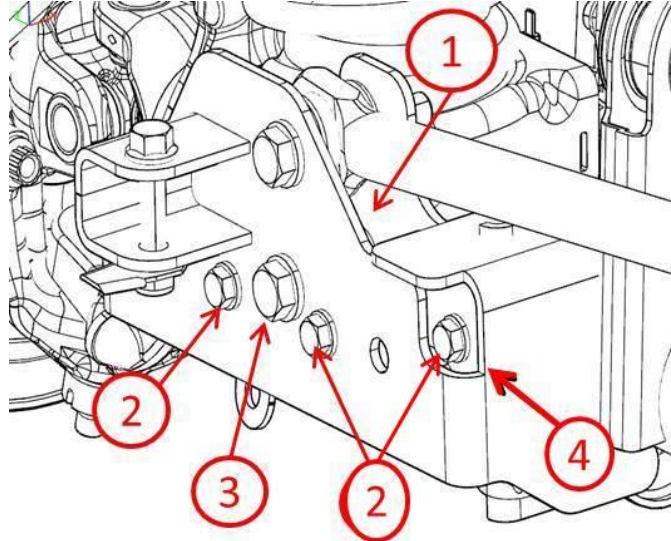

Fig. 2 New Track Bar Bracket
10. Slide the new M14 bolt between (3) the sleeve and place the M14 flag nut on the backside. After the rest of the fasteners are installed, tighten to to 169 N·m (125 ft-lbs) (Fig. 2).
11. Install the M10 fasteners starting with the one on the back side of the bracket (4), and use the provided M10 flag nut. Next, install the two M10 fasteners (2) on the front with the M10 nuts. After all fasteners are installed, tighten to to 81 N·m (60 ft-lbs) (Fig. 2).